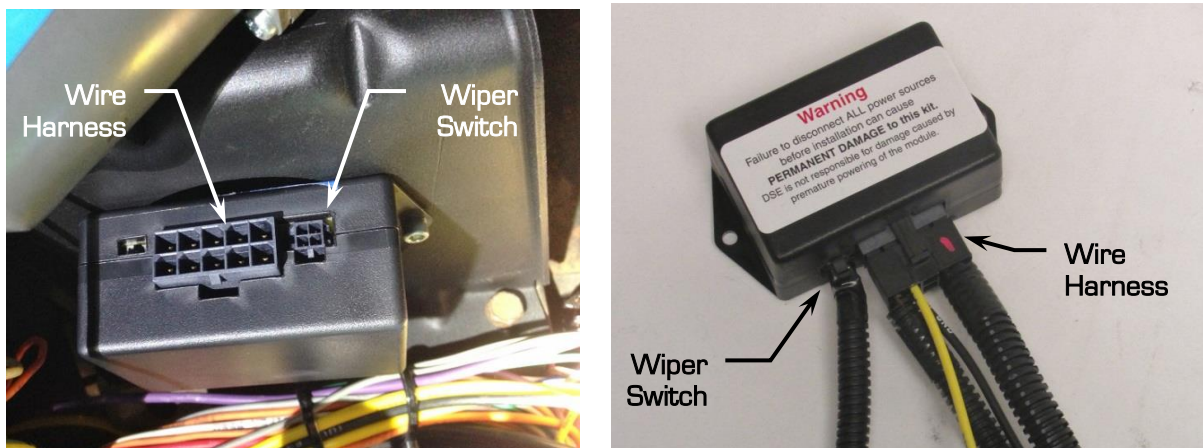

Figure 13 - Connect Wiper Switch & Harness to Module
25. Install the 10-pin connector of the wiring harness into the wiper control module located on the wiper mounting bracket. Install the 4-pin connector from the wiper switch and install it into the control module (Figure 13).